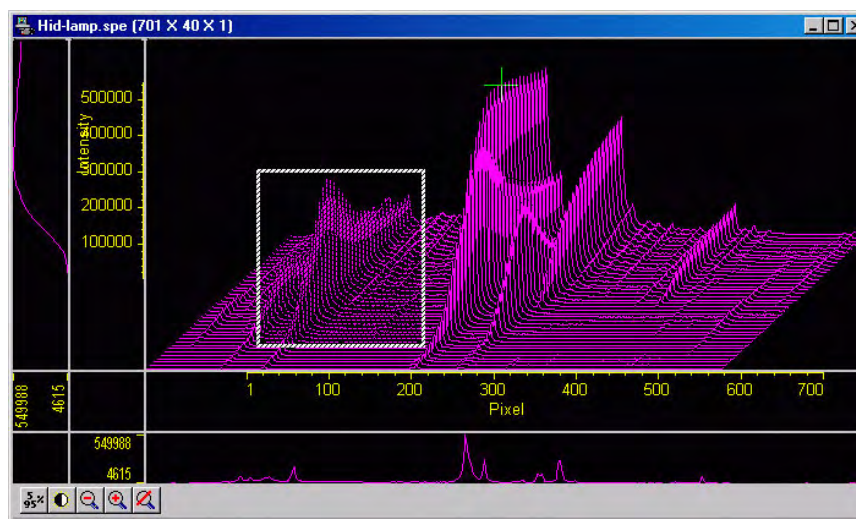

Figure 65. Hid-lamp.spe 3D Graph with Region selected for viewing
- Using the mouse, drag a rectangular region on the image as shown in Figure 65.